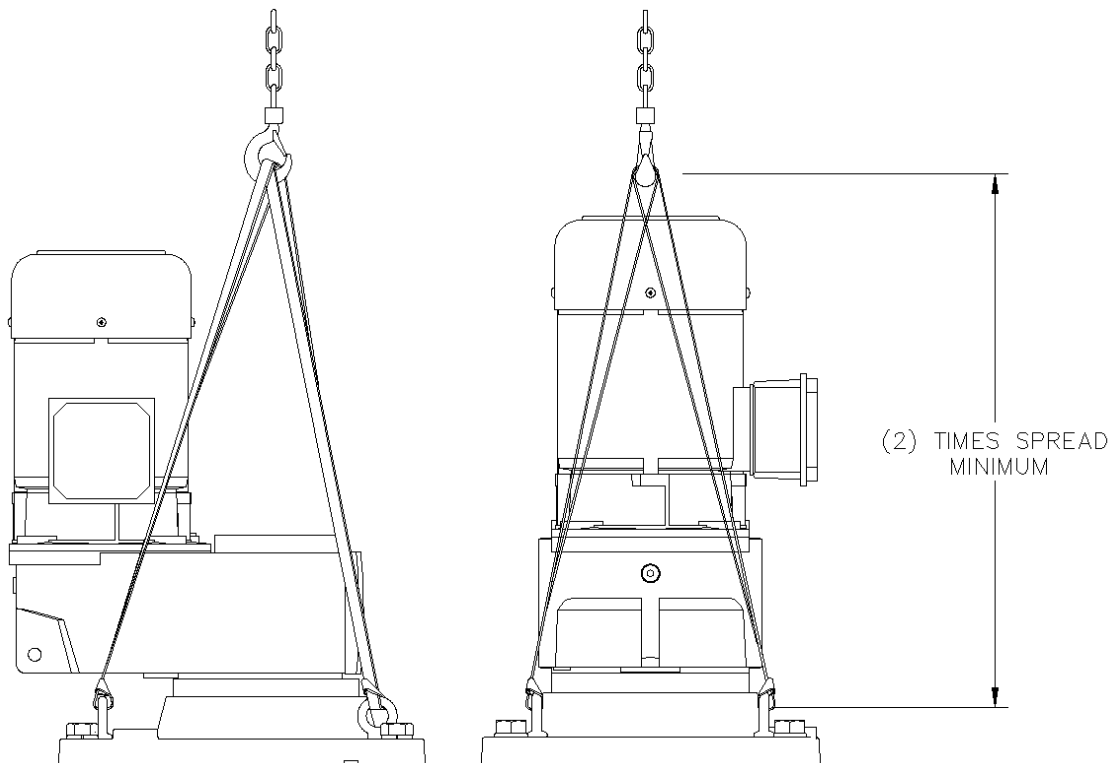

Figure 13. Agitator Lifting System
- Remove all shipping restraints. A hoist or crane system for the lifting of the agitator parts must be available. Refer to Figure 13, page 29 for lifting instructions. The approximate net weight of the unit is shown on the unit assembly drawing. Since gear drives are typically supplied with the motor un-mounted, always verify that the motor being mounted is correct for the gear drive by checking the assembly drawing.